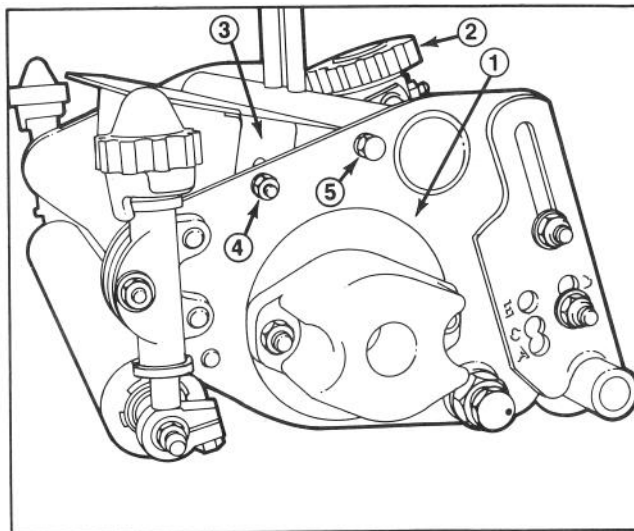
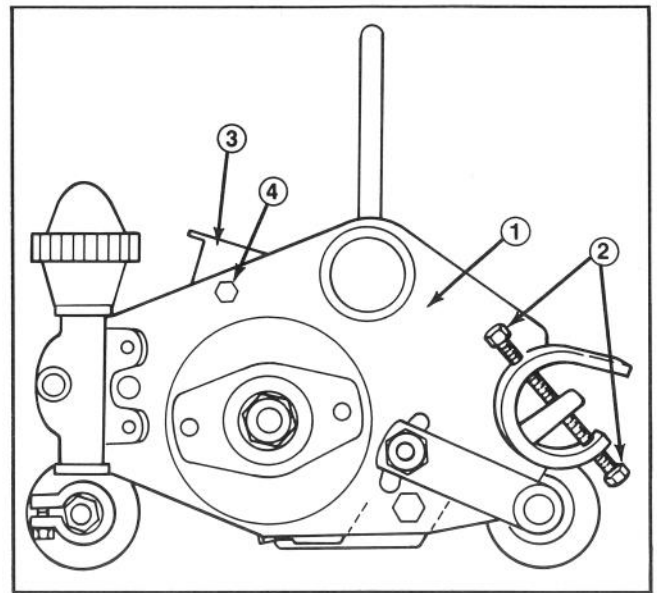

Figure 1
Figure 2
1. Remove grass shield assembly. On SPA cutting units the two hex head cap screws and lock nuts should be saved for reuse but, the two pivot screws and lock washers can be discarded (Fig. 1). On 4 bolt cutting units the two cap screws, washers, lock washers and hex nuts should be saved for reuse (Fig. 2).